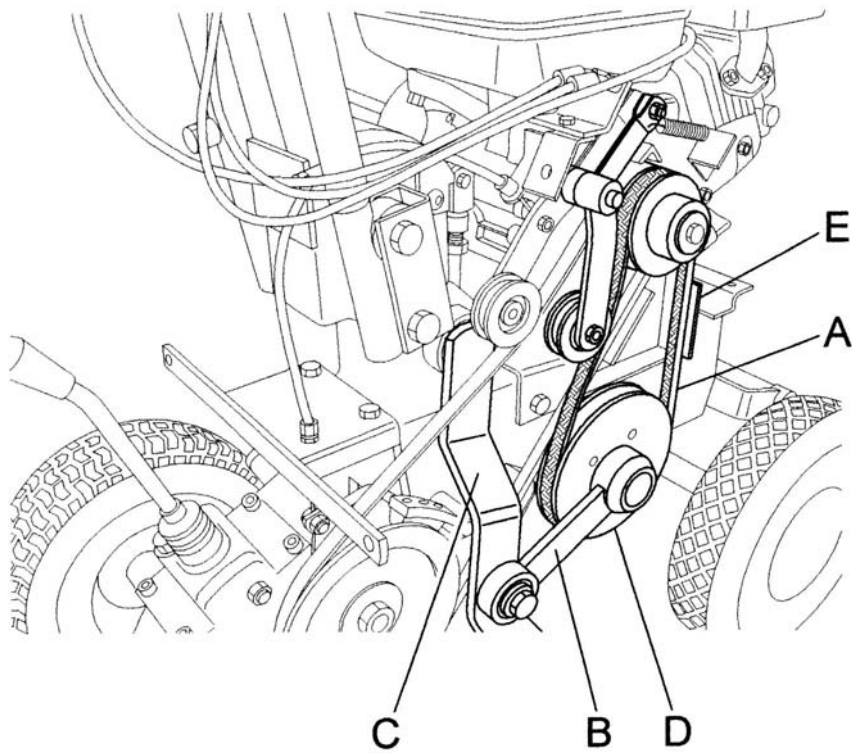

Figure 7
Disconnect the connecting rod (Fig. 7 Ref. B) by removing the nut and loosening the screw that secure it to the arm (Fig. 7 Ref. C)
- Once the connecting rod has been disconnected the belt can be slipped off (Fig. 7 Ref. A) by manually turning the relative lower pulley anticlockwise (Fig. 7 Ref. D).
- Afterwards check that the belt is correctly positioned by using the relative blade control lever. When this lever is lowered and the belt is at maximum tension, the distance between the belt and the relative belt guides (Fig. 7 Ref. E) should be approximately 2 mm.